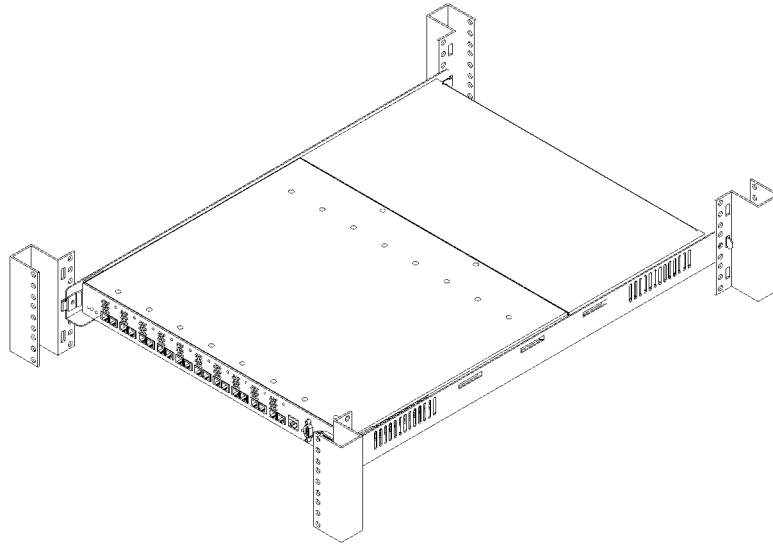

Figure 9. HP FC-AL hub correctly installed in a cabinet
- Mount the left rail by inserting the tabs at the front and rear of the cabinet (B in figure 9).